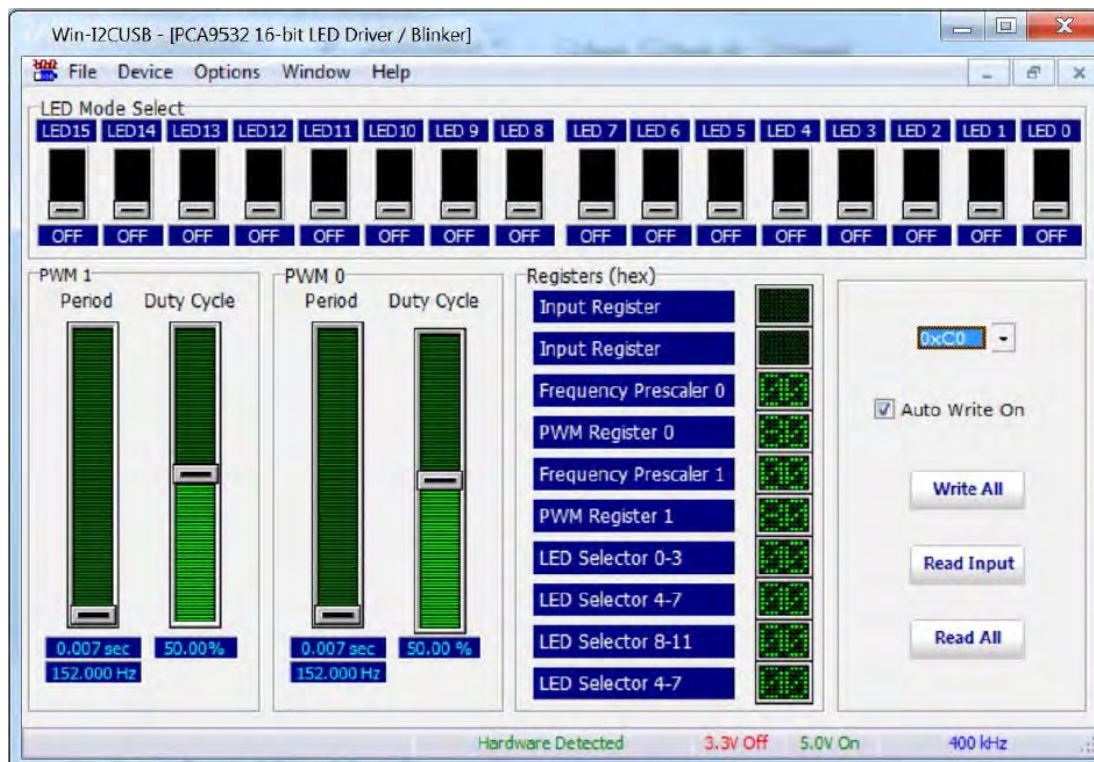

Fig 6. PCA9532 GUI configuration screen
2. The device address is set to “0xC0” hex as default value, also check the ‘Auto Write On’ box (next lower) as shown in Fig 6.